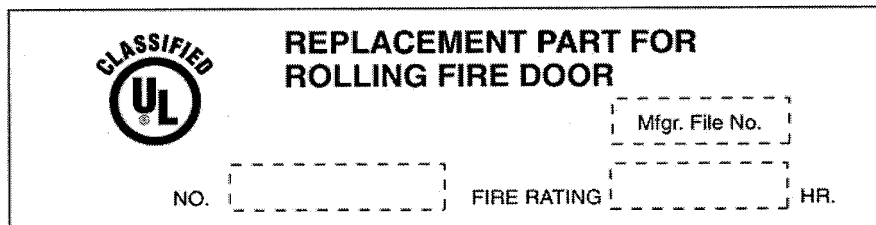
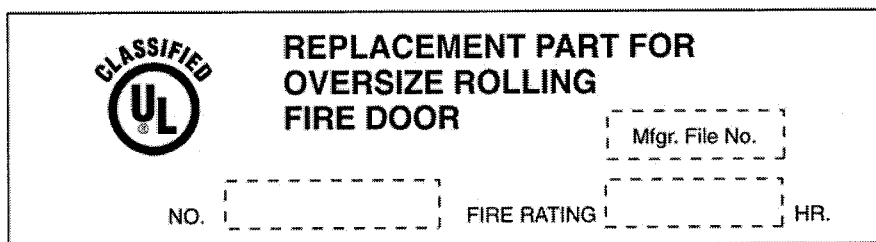

Figure 1
Figure 2
A replacement bottom bar must be ordered from the original fire door manufacturer. The order should include the manufacturer's serial number and, if available, the UL label affixed to the damaged bottom bar. The manufacturer will determine the correct UL label (Figure 1 and Figure 2) to use and the hourly rating, and will process the replacement bottom bar order as follows:
- The door manufacturer will make a replacement bottom bar and attach a new UL replacement part label (Figure 1 or Figure 2).